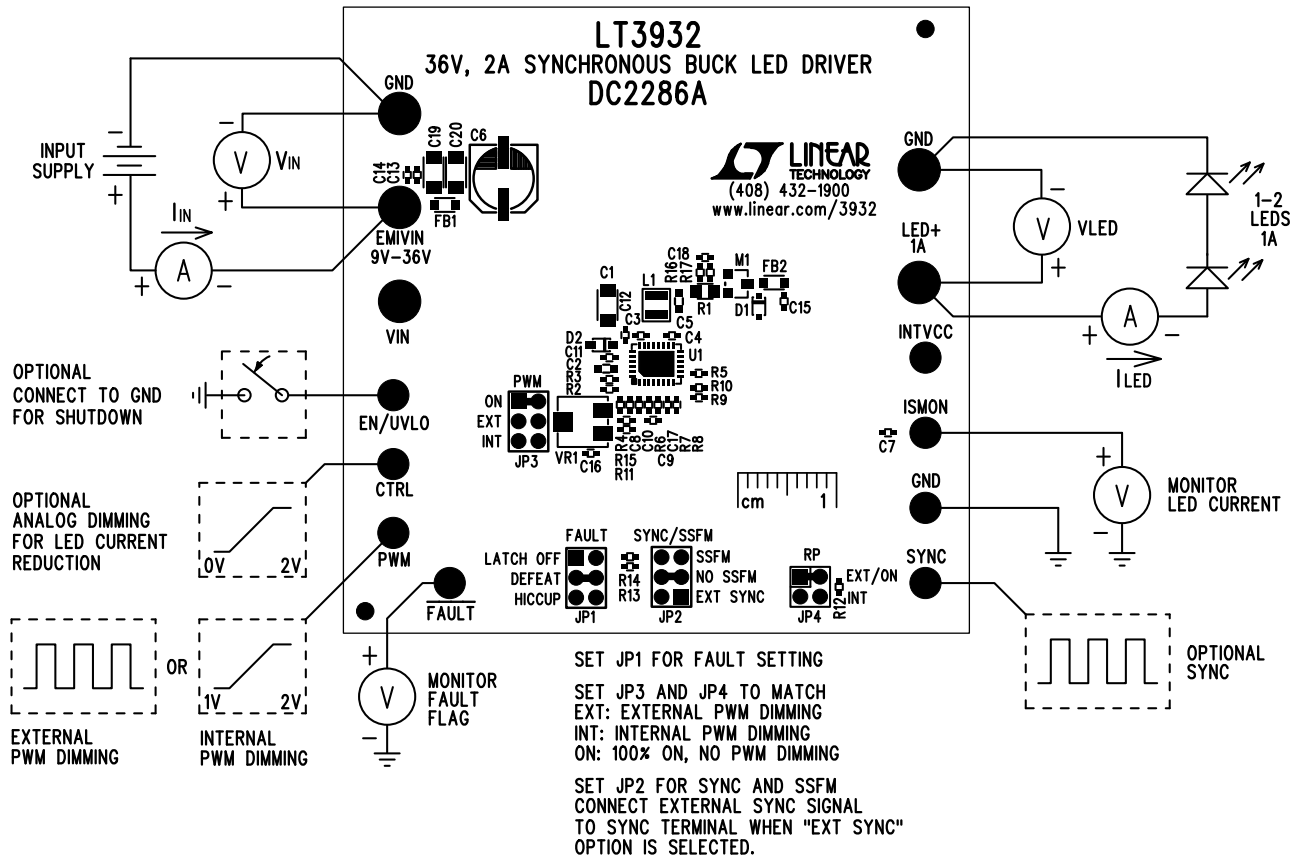

Figure 1. Test Procedure Setup Drawing for DC2286A
1. With power off, connect a string of one or two LEDs that will run with forward voltage less than or equal to 7.0V (at 1A) to the LED⁺ and LED⁻ terminals on the PCB as shown in Figure 1.